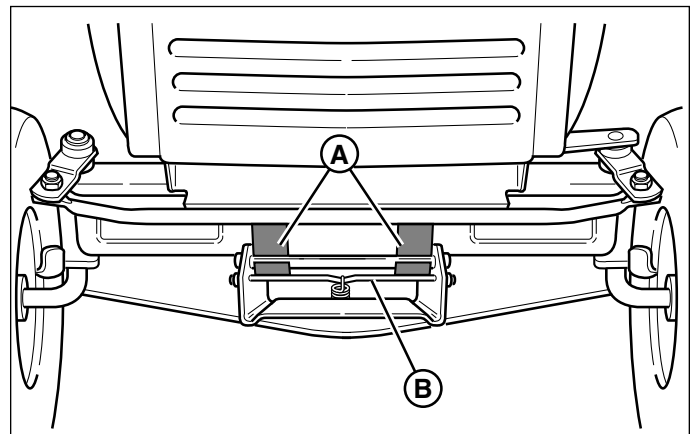

Figure 8. Mower Hitch
6. Turn wheels straight ahead. Pull back on spring-loaded lever (B, Figure 8) and lift mower hitch off of the tractor brackets.
3. See Figure 8. Turn wheels straight. Pull back on the spring-loaded lever (B) while lifting up on the mower hitch. Install mower hitch onto tractor hitch brackets (A). When properly installed, the spring-loaded lever should seat fully underneath the brackets.
8. Turn wheels straight ahead. Pull back on spring-loaded lever (B, Figure 8) and lift mower hitch off of the tractor brackets.